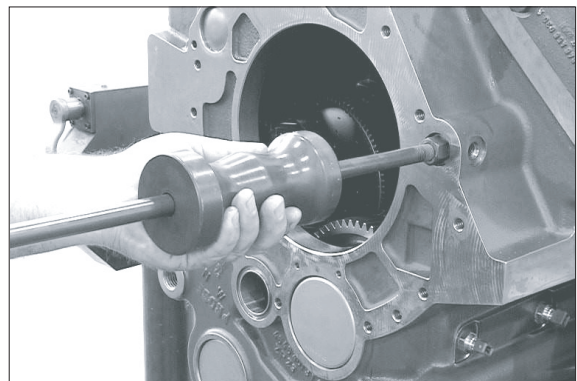
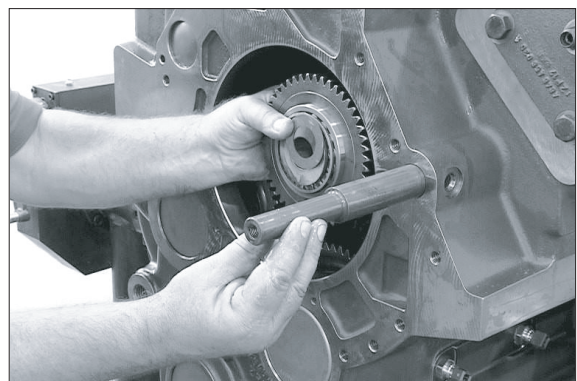

Figure 33
Figure 34
- (9) By means of the striker expel the pin from the housing bore (figure 33) and remove the complete spur gear (figure 34).